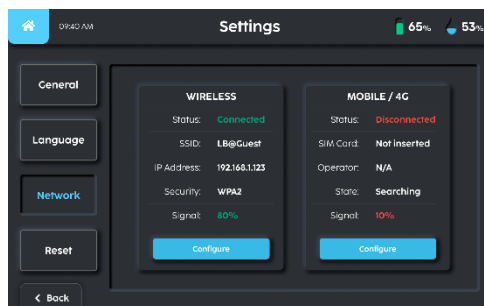

Fig 3
3. The user may change the operating network by selecting the 'Configure' button (Fig 3).